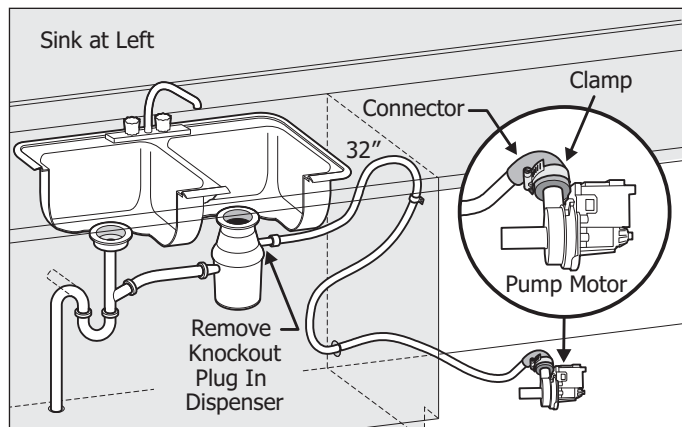

Figure 2-11.
4. Be sure unit does not rest on drain hose. It should be free of electrical components and door springs. Do not cut corrugated drain hose. Pull excess through cabinet and place under sink. Make sure hose does not come in contact with any sharp edges. (See Figure 2-11).